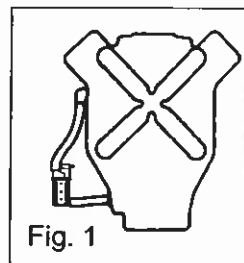

Fig. 1
- Minimize the length of the heater hose used, but maintain a minimum rise of 12 inches to ensure proper circulation. See Figure 1.